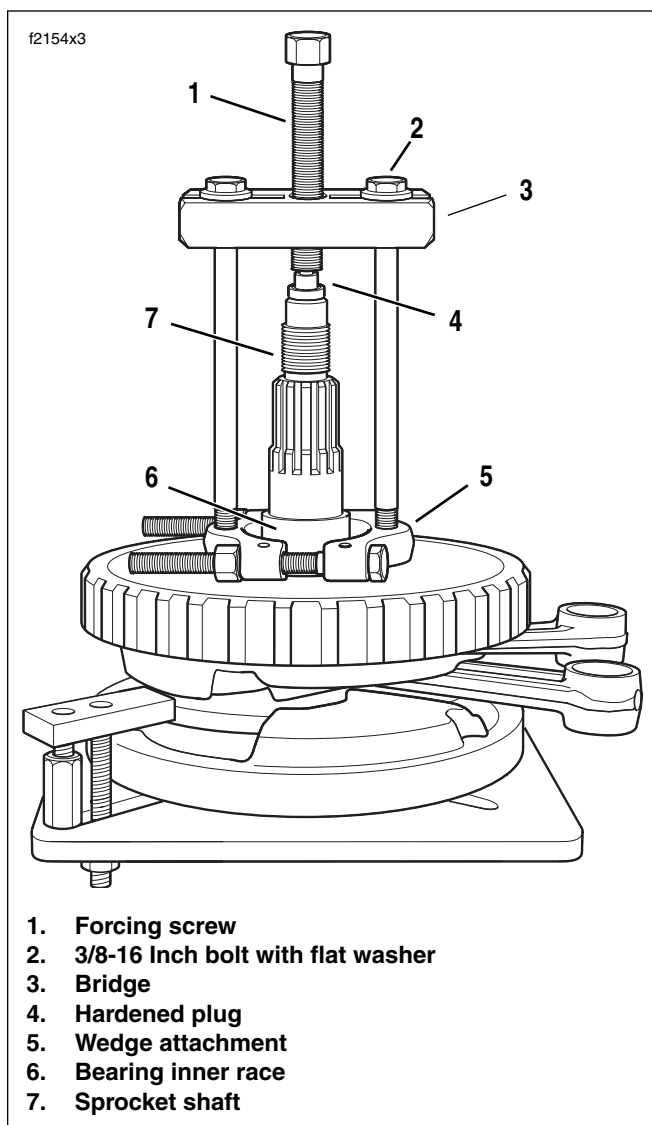

Figure 3-37. Remove Inner Race From Sprocket Shaft
- m. Verify that the tool assembly is square, so that the bearing inner race is not cocked during removal. See Figure 3-37.